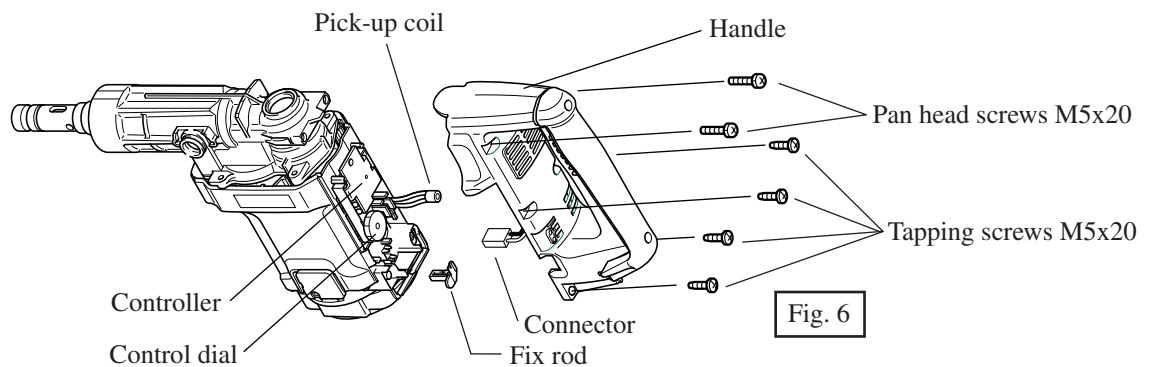

Fig. 6
- 5) Disassemble handle by unscrewing pan head screws and tapping screws as illustrated in Fig. 6.
- 6) Disassemble connector and fix rod as illustrated in Fig. 6.
- 7) And then, remove pick-up coil as illustrated in Fig. 6.